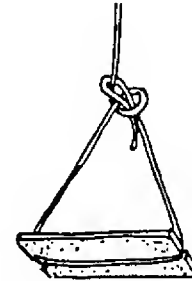

Figure 404 Boatswain's Chair
73. Make a Boatswain's chair (See Figure 404) and cross a horizontal traverse.